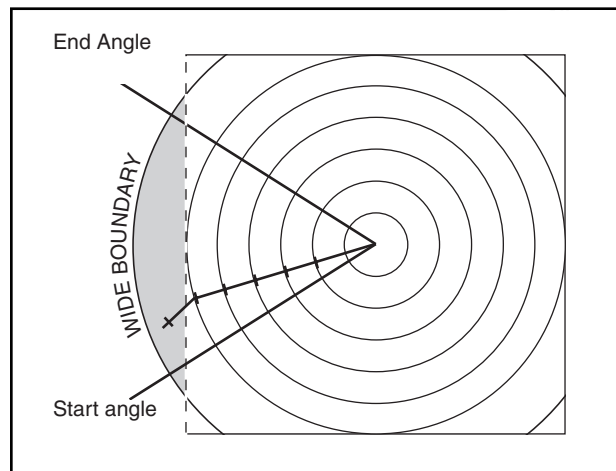

Figure 73-1
- In FORWARD, Wide Boundary turns on at the start angle and off at the end angle. Refer to Figure 73-1.